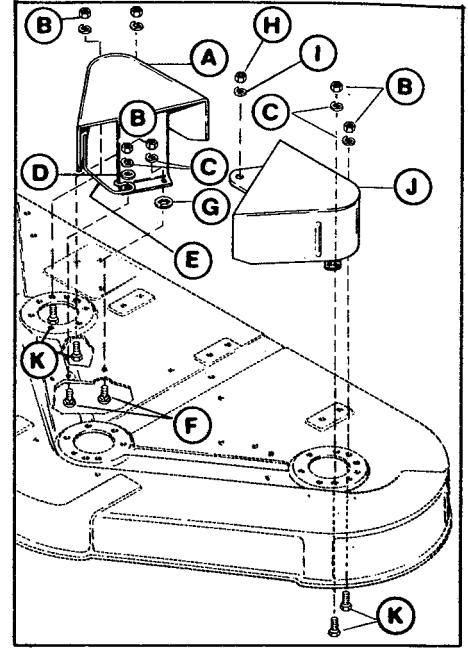

Figure 23. Arbor Covers - 42" Mowers
4. **42" mower only.** Remove the right arbor cover by removing two carriage bolts in front and two capscrews in rear (see figure 23). Remove the nut (H) and lockwasher (I) which secure left arbor cover to the idler pulley. Remove the two capscrews (K) and attaching hardware of the left arbor cover.